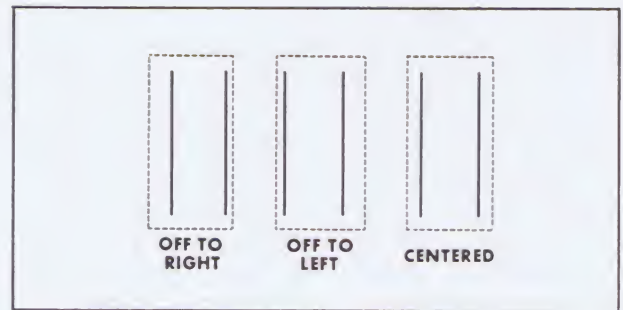

FIGURE 74 Rule and Leader Line Segment Adjustment
- h. To test if the rule and leader line segment is properly centered in relation to the hammer face, insert the VariTyper test type in the anvil and remove the paper or other imaging material from the machine. Operate the single stroke Forms Attachment switch position and imprint the test symbol on the hammer face. The test may be made in either lower case or figure shift position. The two parallel vertical lines should be centered on the hammer face with approximately .010" clearance between the lines and the edges of the hammer face (Figure 74). To obtain this setting, first check the hammer centering (see Adjustment No. 13b) and then adjust the driver arms laterally by means of the driver arm brace adjusting nuts (see Adjustment No. 9d(1)). (Note: #1900 Vari-Clear ribbon will not print on the hammer face. To overcome this, place a piece of carbon paper between the hammer face and the type.)